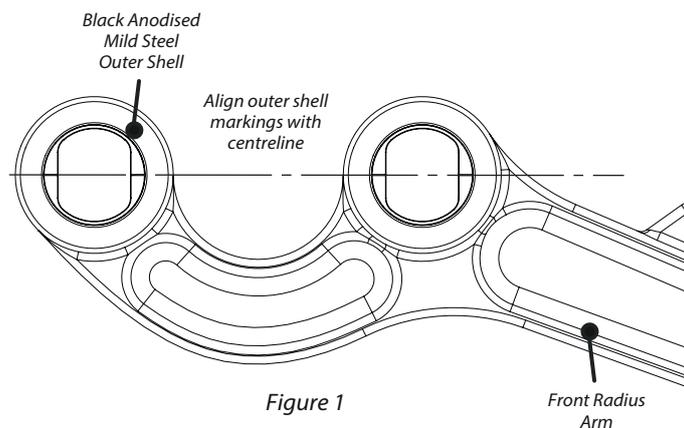

Figure 1
3. Fit the black anodised mild steel outer shell into the radius arm, taking note of the correct alignment as shown in Figure 1.